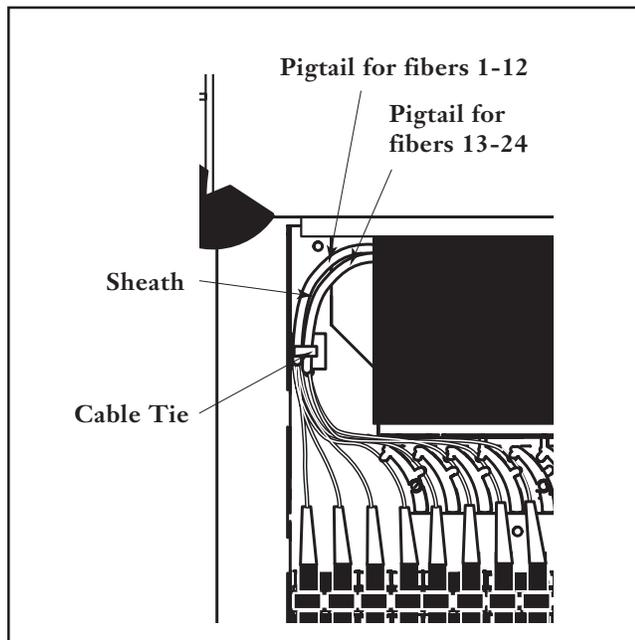

Figure 21
10.1 Pigtails are fiber optic cables with connectors only at one end. The connectors are installed into sleeves in the connector shelf and pigtails are routed through the fiber guides behind the sleeves (Figure 21).